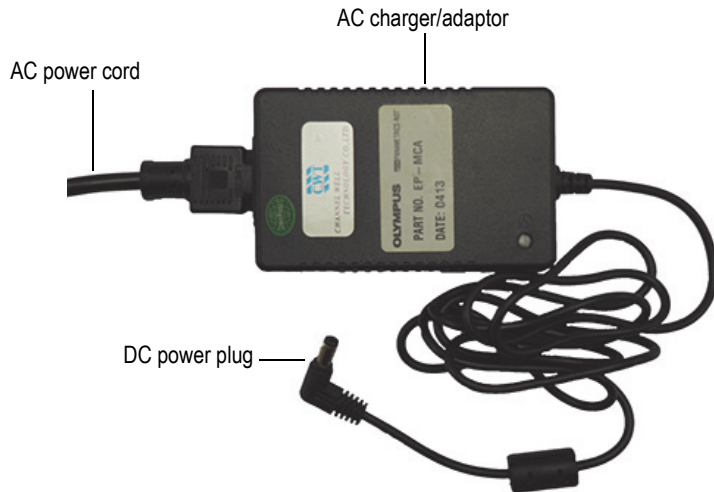

Figure 3-2 AC charger/adaptor
2. Insert the other end of the AC power cord into the AC connector on the AC charger/adaptor (see Figure 3-2 on page 43).